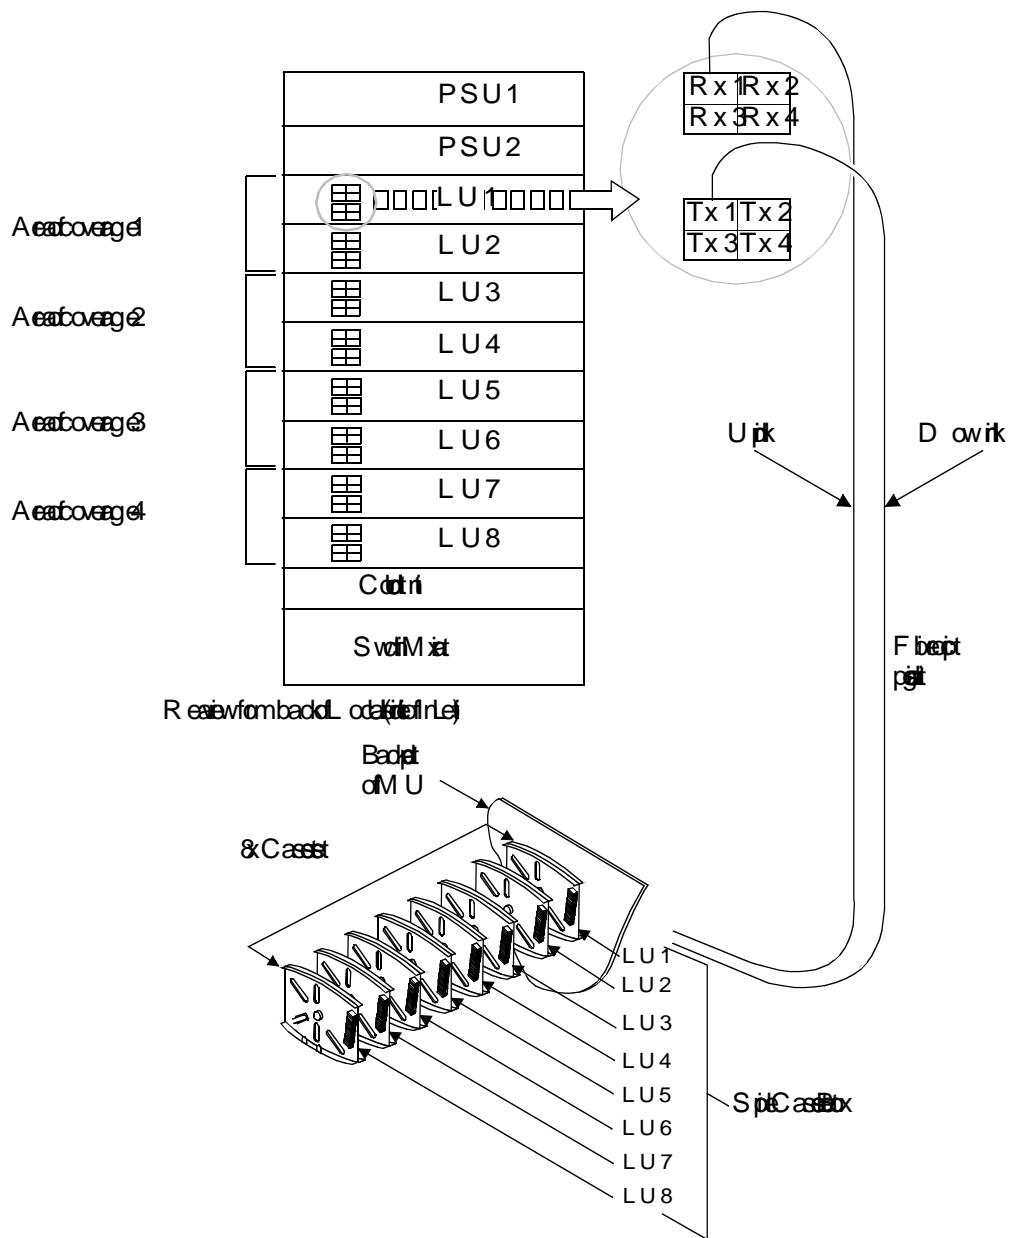

Figure 24. Communication
10. Repeat steps 4 to 9 for the remaining pigtails and the fibres. Figure 24 provides an example of how the fibres are arranged.